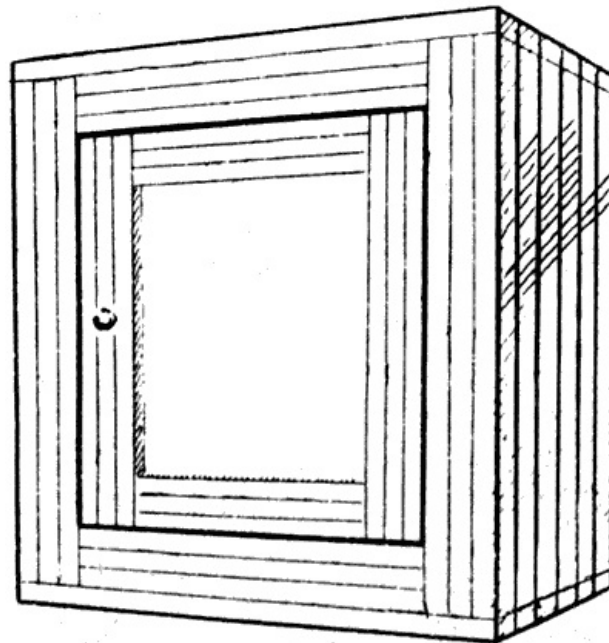
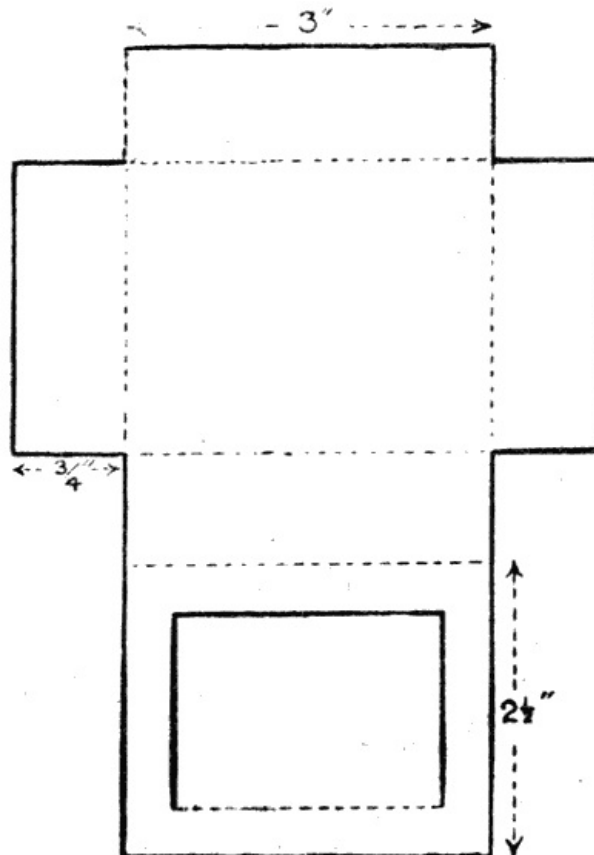

FIG. 20.
FIG. 21.
*Models from Match Sticks*, with the aid of just one or two accessories such as paper and glue. Placed side by side, and glued to each other, and to a cardboard or paper foundation, matches (particularly the larger sort) give quite an impression of solidity—which you will notice if you refer to the picture of the cupboard given in Fig. 20. In this a cardboard foundation is made according to Fig. 21, and the matches cut to the correct lengths and glued into position. In making the foundation, draw out carefully as shown, cut through the plain lines, and scratch along the dotted lines. Then bend into shape, and secure by means of strips of gummed tape or paper.